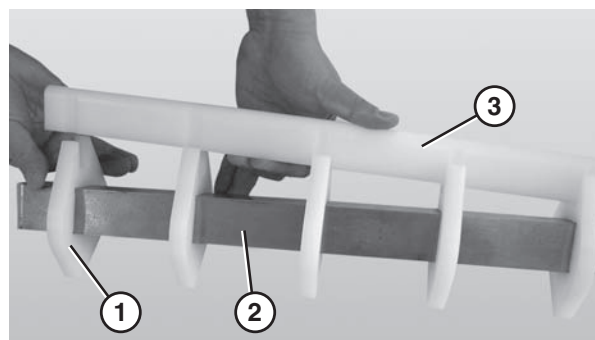

Figure 70
3. Remove the nose bar wear strip (**Figure 70, item 3**).
4. Slide the nose bar pucks (**Figure 70, item 1**) off the nose bar shaft (**Figure 70, item 2**).